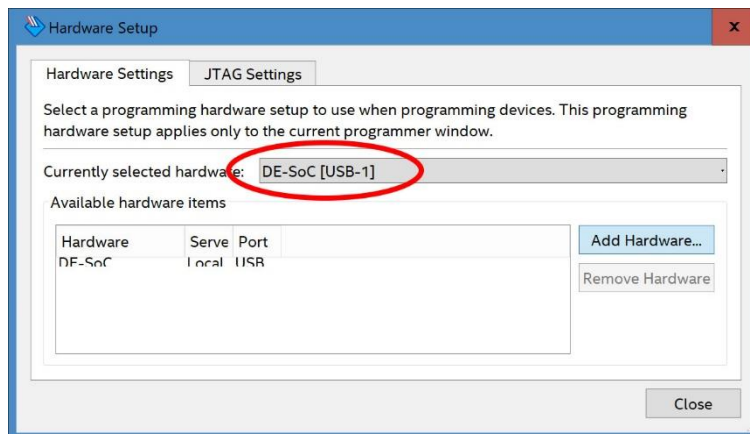

Figure 13: Hardware Setup dialog box in case the "Start" button in the Programmer dialog box was greyed out.
- b) If the “Start” button is greyed out, you need to first run click the “Hardware Setup...” button. This will bring up the “Hardware Setup” dialog box. Set “Currently selected hardware” to “DE-SoC”, and close the dialog box (*Figure 13*).